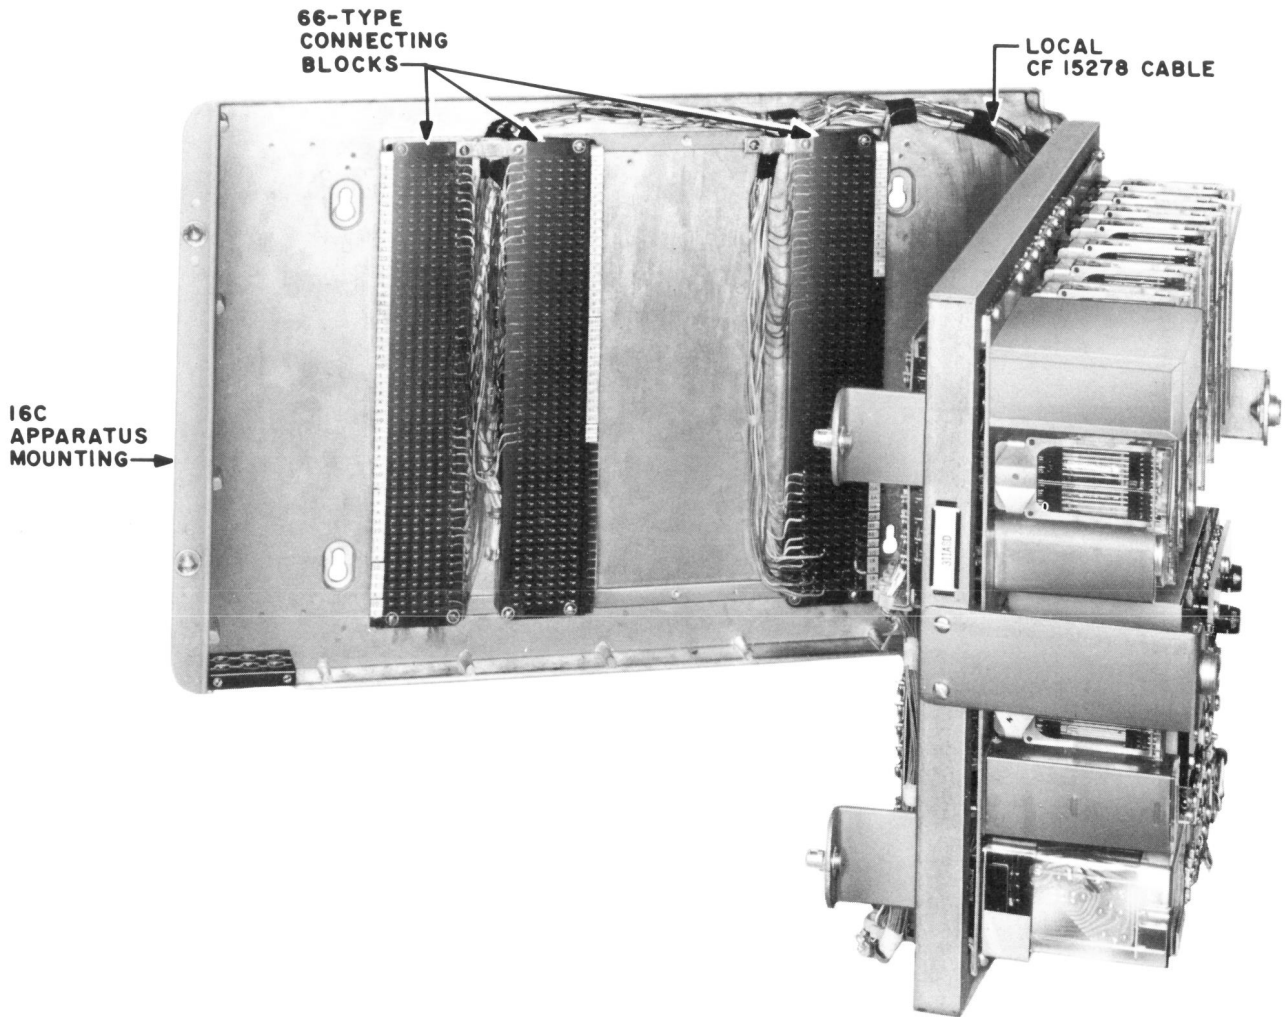

Fig. 5 — 311A8D KSU, Gate Open
2.20 Fig. 5 shows the 311A8D key service unit with the 66-type connecting blocks.